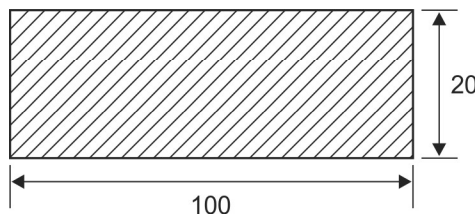

Fig. 1.8(a): Problem 4
4. If the cross-section in problem 3 is a rectangle as shown in Fig. 1.8(a), with the load being 20 kN, find the resultant stresses. The radius of curvature on inner side is 50 mm and that on the outer side is 150 mm (Fig. 1.8).